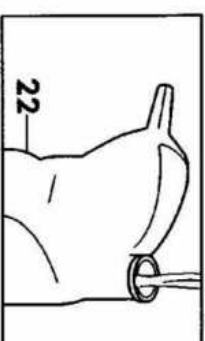

Fig. 6
Fill the bottle (21) with demineralised or tap water (**Fig. 6**).